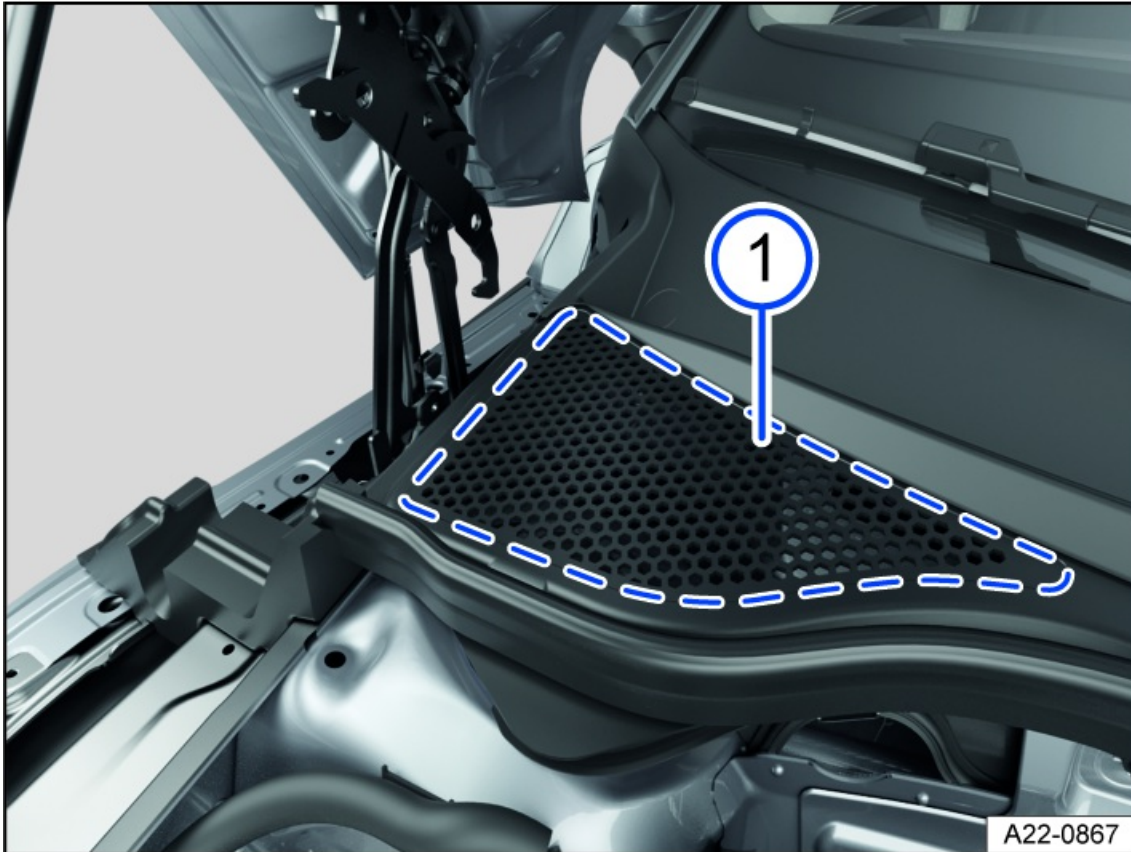

Fig. 182 Between the hood space and windshield: Plenum chamber (general example).
- Have the area under the perforated cover regularly cleaned by an authorized Volkswagen dealer or authorized Volkswagen Service Facility qualified in this respect fig. 182. Volkswagen recommends contacting an authorized Volkswagen dealer or authorized Volkswagen Service Facility.
- Remove leaves or other loose objects on the perforated cover with a vacuum or by hand fig. 182.